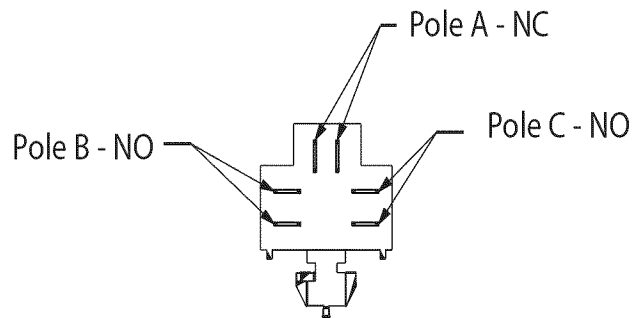

Figure 7.12
- The brake switch used on manual PTO tractors is a triple pole single throw switch. It has one set of contacts that are normally closed (NC) and the other two sets are normally open (NO). See Figure 7.12.